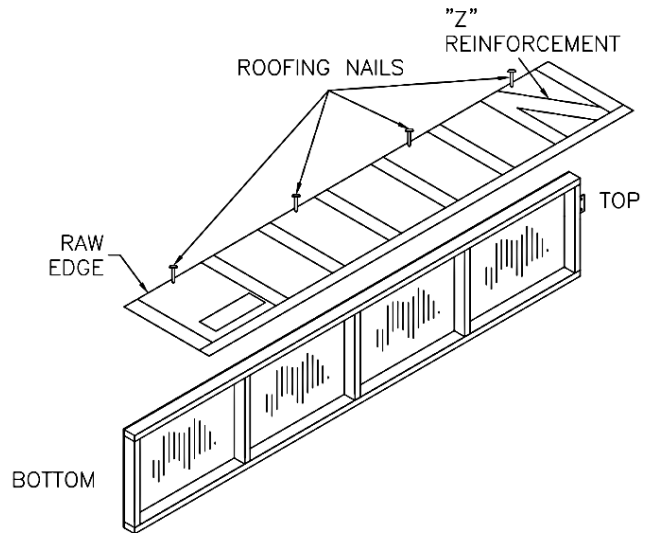

FIG. 5A
- Place bottom of Vertical Panel flush with bottom** of Vertical Frame (Figure 5a).
- Secure** Vertical Panel between stays with three (3) other evenly spaced Roofing Nails.